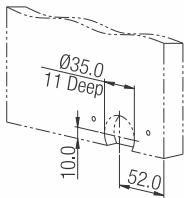

Fig.4
3. Drill Ø35mm cavity, 11mm deep on the bottom of the shutter as shown in Fig. 4 and screw the bottom guide (shutter thickness should be ranging from 16mm to 23mm).
2. Fit the catch with screws into the Top track as shown in Fig 4. For dimension refer Fig 1.
5. Fix the track by screw as shown in Fig. 4.